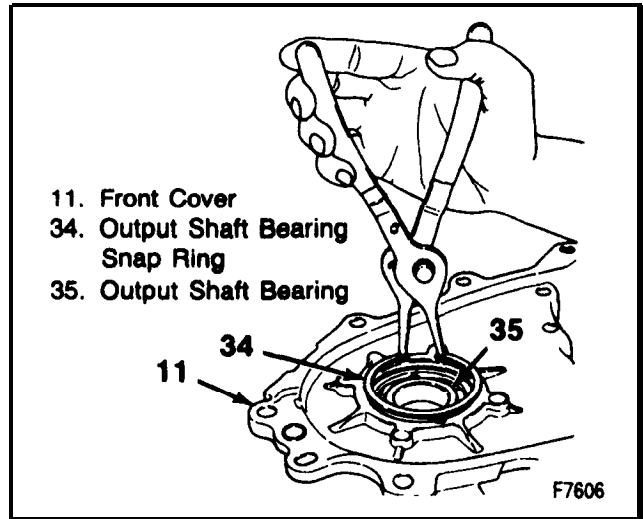

Figure 21 -installing the Output Shaft Bearing Snap Ring
6. Output shaft bearing snap ring (34) to the front cover (11) (figure 21).